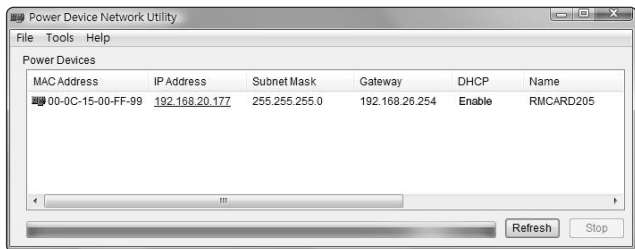

Figure 1. The main window of the “Power Device Network Utility” program
3. The main window of the Power Device Network Utility program is shown in Figure 1. The configuration tool will display all CyberPower Remote Management devices present on the local network subnet. The “Refresh” button is used to search the local network subnet again.